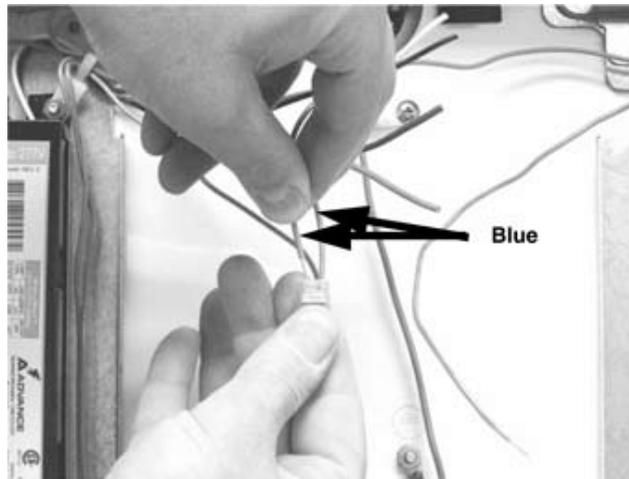

Figure 78.
- B. Press the socket-blue wire into the connector, as shown Figure 78 .